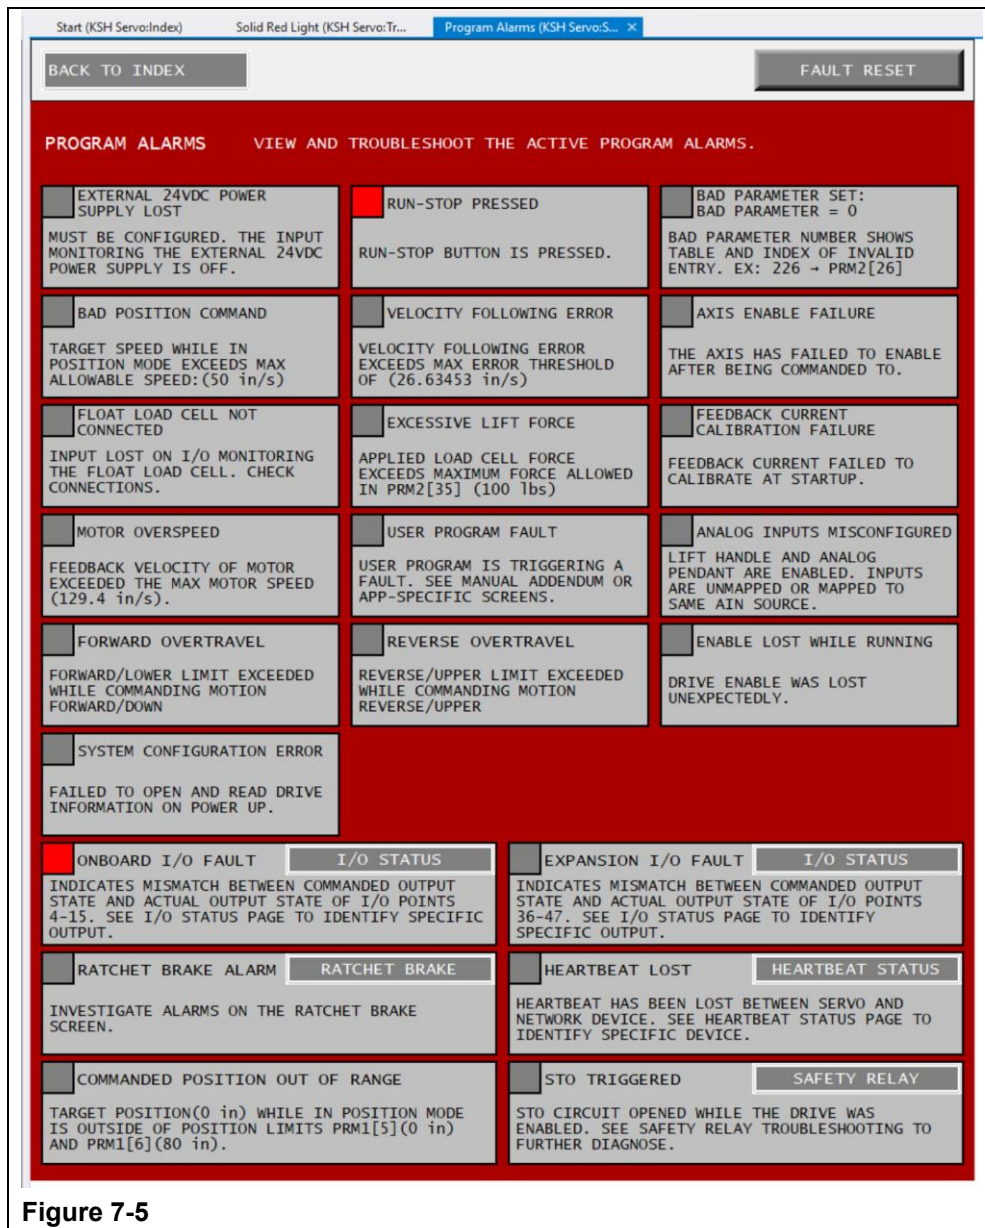

Figure 7-5
- I. The “INVESTIGATE PROGRAM ALRMS” button navigates to the “PROGRAM ALARMS” screen (See Figure 7-5)